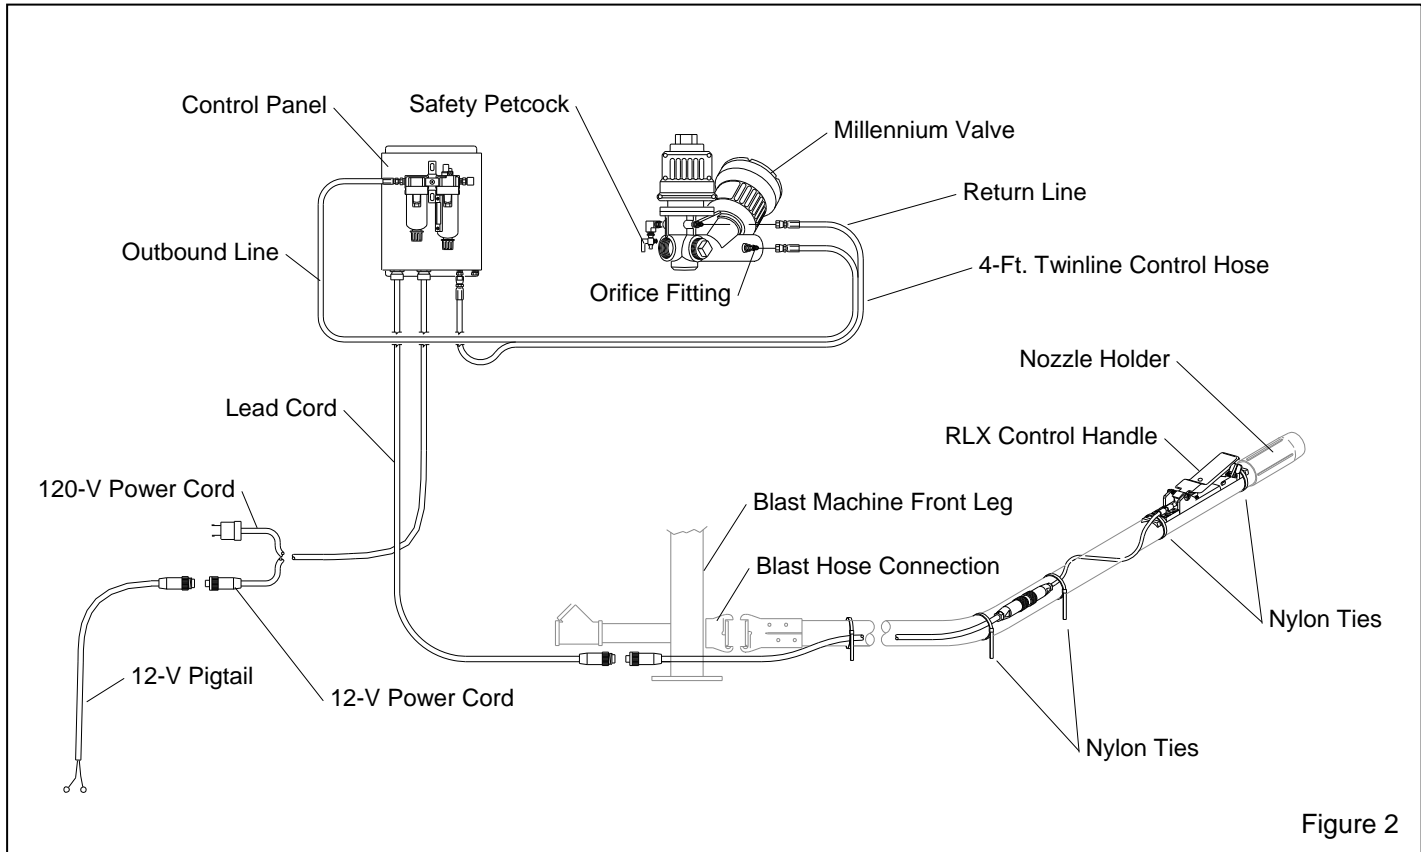

Figure 2
**1.3.4.1** The components of the Millennium electric remote control system are shown in Figure 2. They include the Millennium Valve, RLX Control Handle, 50-foot control cord, 4-foot long twinline control hoses, and all necessary fittings
### 2.1 Control Panel, Ref. Figure 2
2.1.3 Attach the free end on the other side of the twinline hose (shown as "Return line" in Figure 2) to the fitting on the bottom of the control panel marked "Air Valve".
**2.2 Blast Hose and Control Cord Connections, See Figure 2.**